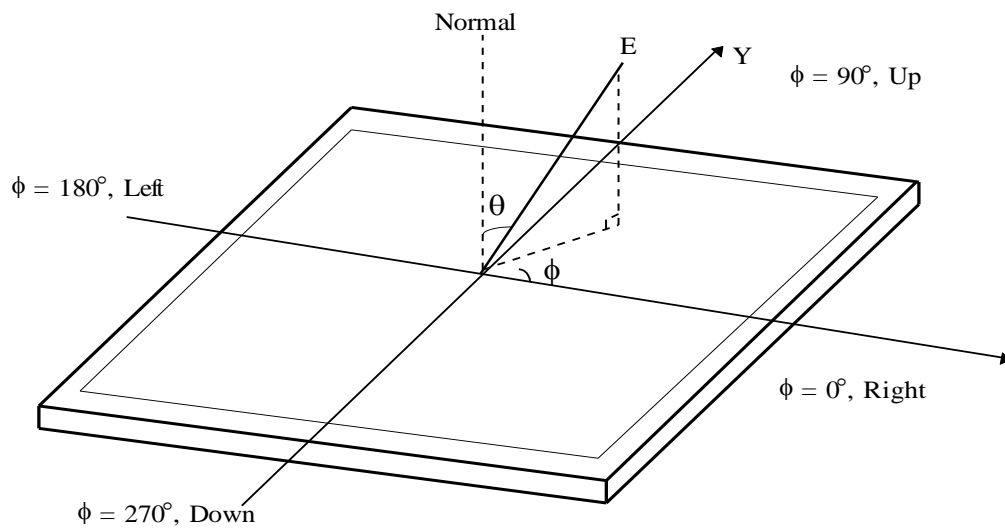

FIG. 5 Viewing Angle
4. Viewing angle is the angle at which the contrast ratio is greater than 10. The angles are determined for the horizontal or x axis and the vertical or y axis with respect to the z axis which is normal to the LCD module surface. For more information, see the FIG. 5.